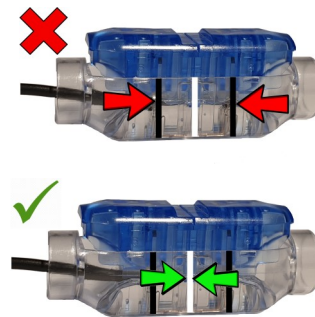

Figure 2
4. Place one cut wire into each of the openings on the free end of the joiner. Make sure the wires are fully pushed into the middle of the joiner (see Fig.2). There is no need to strip the wires.